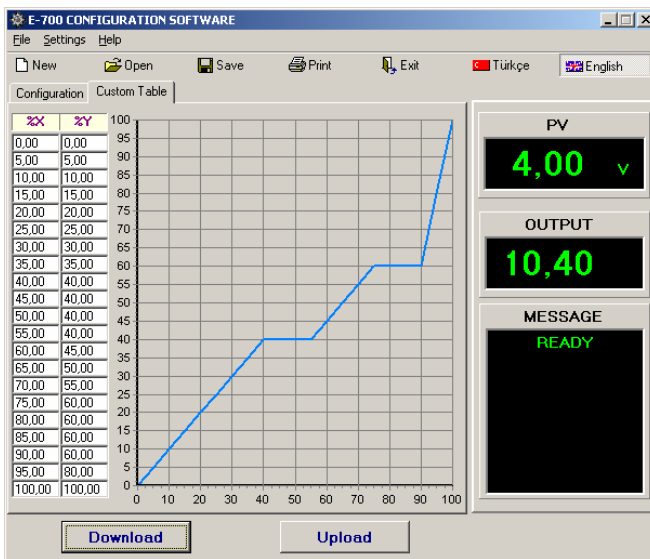

Figure 2. Custom Table Tab
Excluding thermocouple and resistance thermometer, for all other selectable sensors a user defined linearizer can be loaded to the module. If **Type** combo box is selected as "Custom", **Custom Table** tab becomes active; in this window 20 segment linearization can be defined. When **Custom Table** tab is selected the appearance of the main windows is given in Figure 2. Input (X) and Output (Y) relations are defined in the columns on the left of the window. These two columns are editable and any change in X and Y values is displayed in the chart. The values of X and Y should be entered as a percentage of input and output ranges respectively. If the entered values are not accepted an error window opens and gives warning after pressing the enter key.